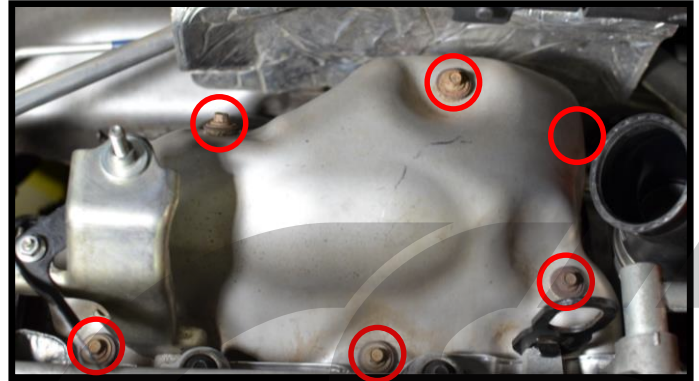

Figure 6a
a) Remove the six 8mm bolts circled in red in **Figure 6a**, then remove the upper manifold heat shield.